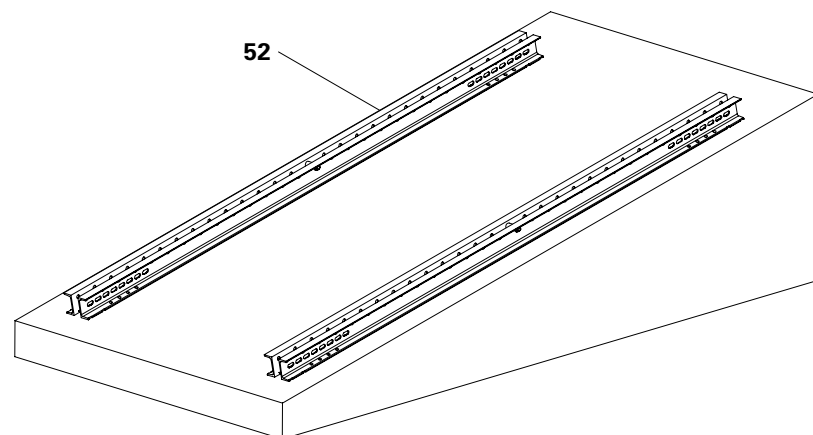

Fig. C2.02
1. Align the Steel Waler SRU (**52**) to accommodate the inclination. Secure the steel waler to prevent slipping, e.g. by anchoring into the substrate. (Fig. C2.02)